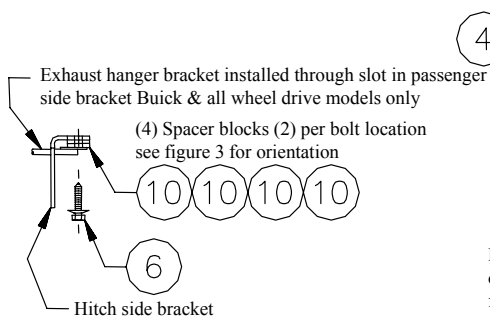
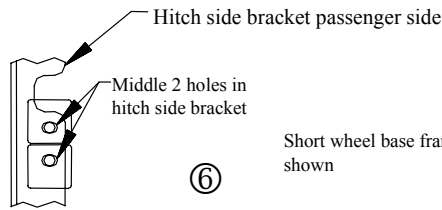

Figure 2
Figure 3
(4) Spacer blocks (2) per bolt location see figure 3 for orientation
Note: On all wheel drive models, it will be necessary to pass exhaust hanger thru 3" long slot in side bracket and use (2) 1/4" blocks as shown in figure 2 and figure 3, to reattach exhaust hanger bracket.